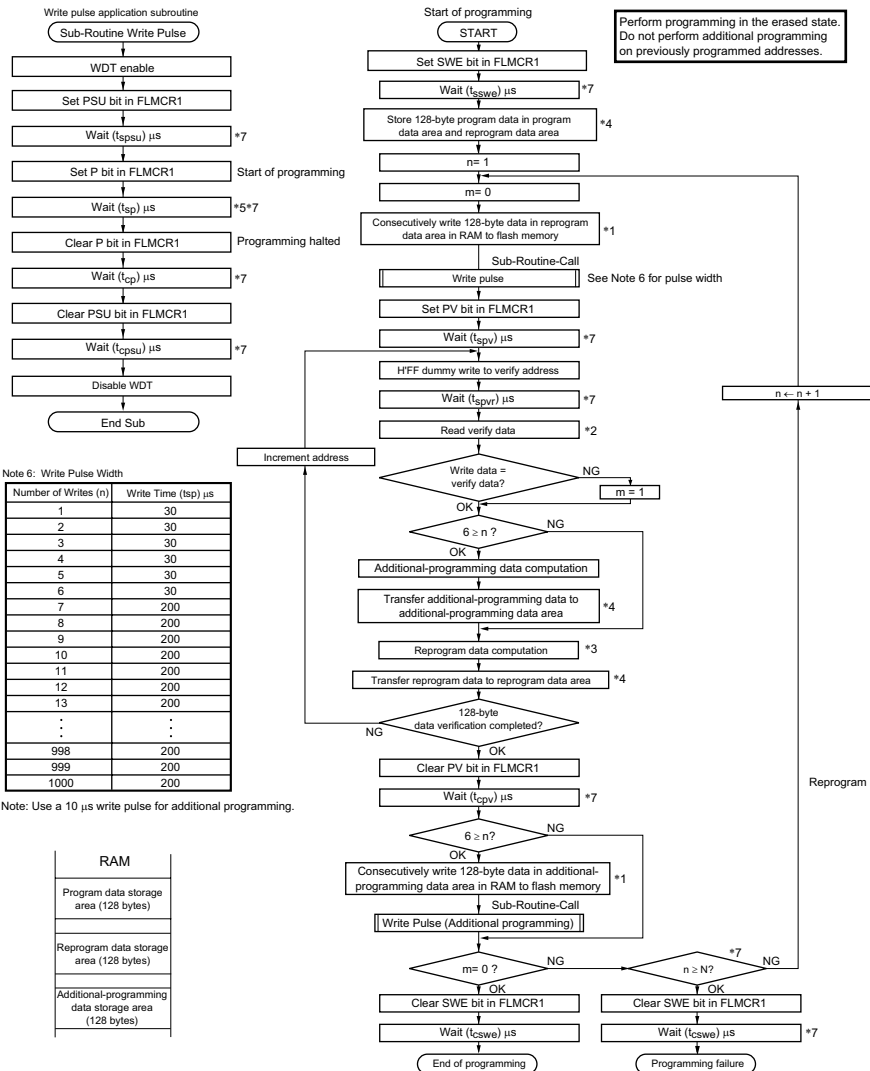

Figure 18.10 Program/Program-Verify Flowchart (128-Byte Programming)
When writing data or programs to flash memory, the program/program-verify flowchart shown in figure 18.10 should be followed. Performing programming operations according to this flowchart will enable data or programs to be written to flash memory without subjecting the device to voltage stress or sacrificing program data reliability. Programming should be carried out 128 bytes at a time.
After the elapse of the given programming time, clear the P bit in FLMCR1, then wait for at least (t_{cp}) μ s before clearing the PSU bit to exit program mode. After exiting program mode, the watchdog timer setting is also cleared. The operating mode is then switched to program-verify mode by setting the PV bit in FLMCR1. Before reading in program-verify mode, a dummy write of H'FF data should be made to the addresses to be read. The dummy write should be executed after the elapse of (t_{spv}) μ s or more. When the flash memory is read in this state (verify data is read in 16-bit units), the data at the latched address is read. Wait at least (t_{spvr}) μ s after the dummy write before performing this read operation. Next, the originally written data is compared with the verify data, and reprogram data is computed (see figure 18.10) and transferred to RAM. After verification of 128 bytes of data has been completed, exit program-verify mode, wait for at least (t_{cpv}) μ s, then clear the SWE bit in FLMCR1. If reprogramming is necessary, set program mode again, and repeat the program/program-verify sequence as before. The maximum number of repetitions of the program/program-verify sequence is indicated by the maximum programming count (N). Leave a wait time of at least (t_{cswe}) μ s after clearing SWE.
6. The program/program-verify flowchart for the H8/3028F-ZTAT is shown in figure 18.10.